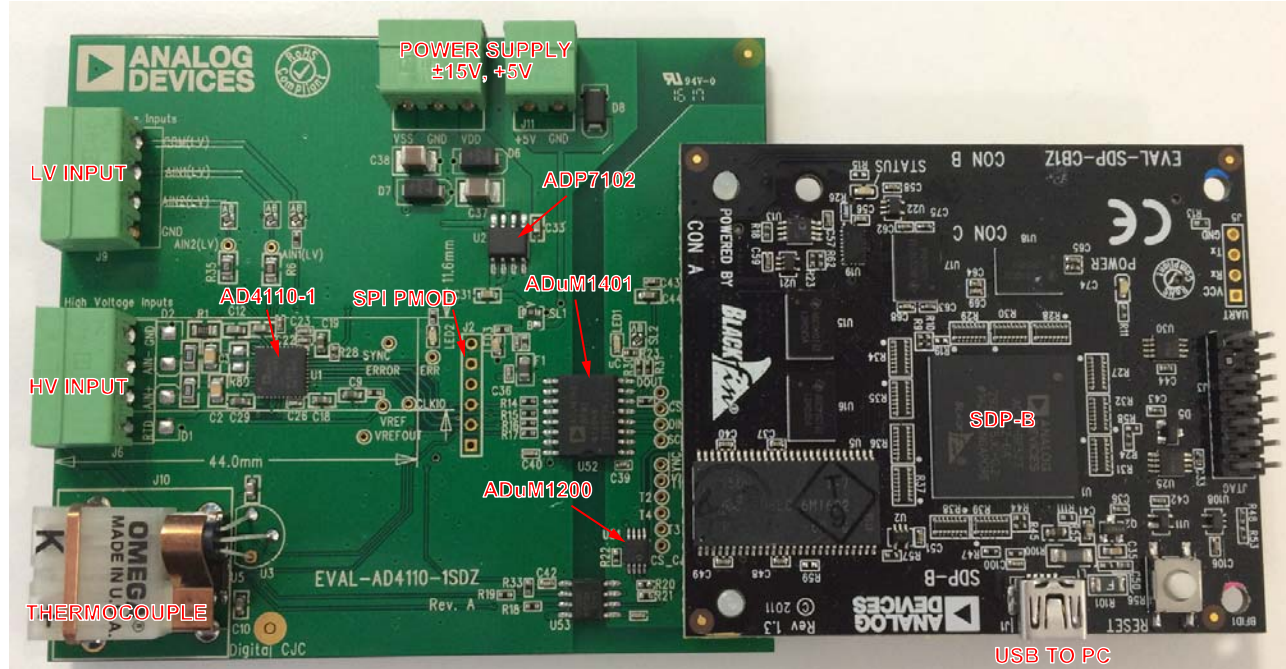

Figure 2. Hardware Configuration—Setting Up the EVAL-AD4110-1SDZ
The EVAL-AD4110-1SDZ evaluation board connects to the SDP-B controller board, which is the communication link between the PC and the evaluation board. Connect the EVAL-AD4110-1SDZ board to Connector A (CON A) on the SDP-B board, as shown in Figure 2.
A  $\pm 15$  V power supply is recommended and must be connected to J14, as shown in Figure 2.
4. Apply the external voltage ( $\pm 12\text{ V}$  to  $\pm 20\text{ V}$ ) to the power supply connector of the EVAL-AD4110-1SDZ board as shown in Figure 2.